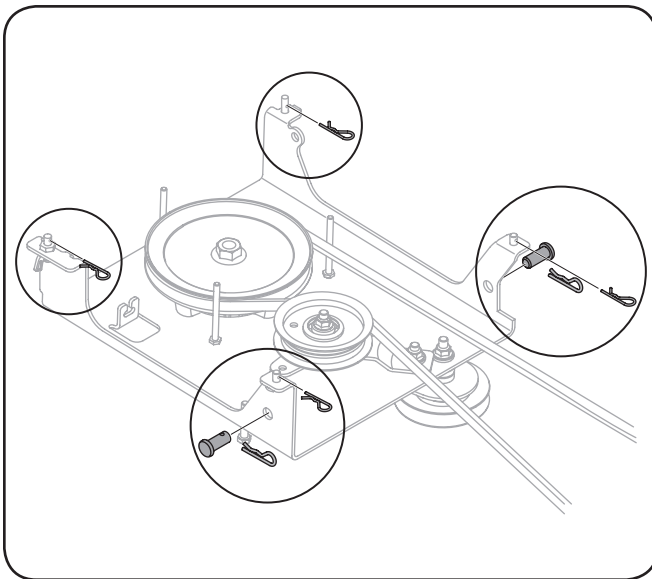

Figure 3-4
2. Remove and retain the four hairpin clips from the weld pins found on the top side of the undercarriage assembly. Remove and retain the two clevis pins with hairpin clips. This hardware is for later installation. Figure 3-4.